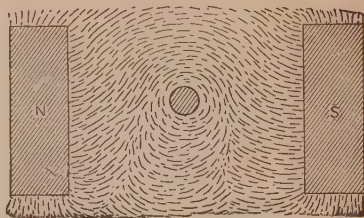

FIG. 137. The shape of the magnetic field is due to the current in the wire and the field between the two poles.
**66. Reason for Rotation.** In the case of a wire wound on an armature core of a motor, we have a straight wire carrying a current, placed in the magnetic field of the poles. There must then be present two magnetic fields; the circular field around the wire, and the almost parallel field of the poles. Fig. 137 shows the result obtained by means of iron filings. The wire carrying its current is placed in the